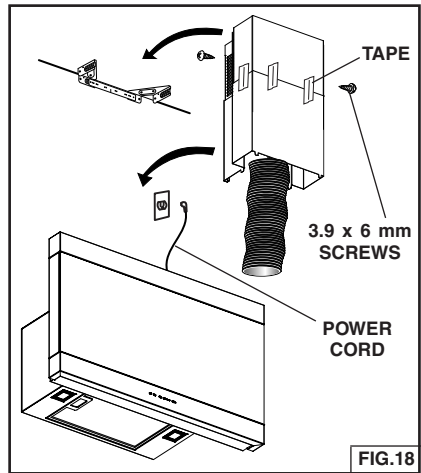

FIG.18
6. Temporarily secure the upper and lower flue together with duct tape as shown. Fig. 18.
7. Lift the flue into position. Secure upper flue to the flue mounting bracket with (2) 3.9 x 6 mm screws. Fig. 18.